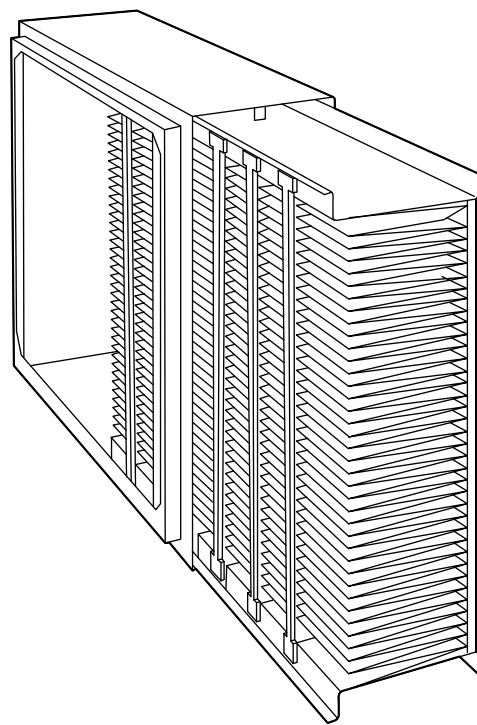

Fig. 7—Media Frame Positioning
6. Slide assembled media frame into air cleaner cabinet. Be sure airflow arrow on media frame is in same direction as arrow in cabinet. Plastic pleat spacers are always on downstream side of filter media. Attach outer cover and tighten thumb screws. (See Fig. 7.)